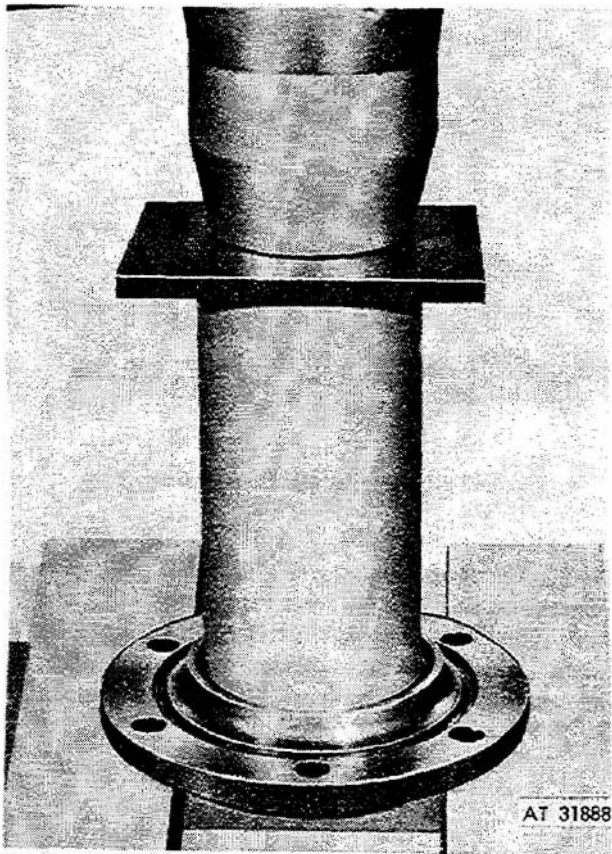

Figure 3-92. Pressing seal from pinion retainer.
(7) Disconnect retainer (47, fig 3-88) from housing (15) by removing screw (40) and washer (39). Remove preformed packing (48) from retainer. Press seal (45) from retainer (fig 3-92).